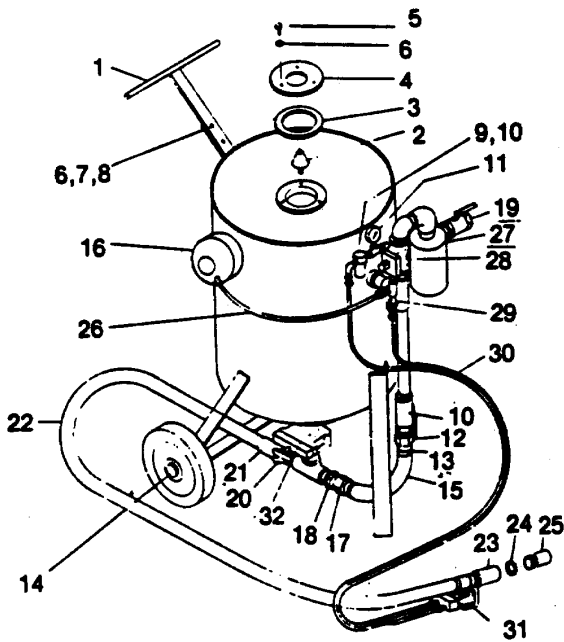

Figure 3
PNEUMATIC SYSTEM (FIGURE 3-pg. 15)
8.0 **PROBLEM – UNABLE TO PRESSURIZE TANK (FIGURE 3 AND 3A-pg. 15)**